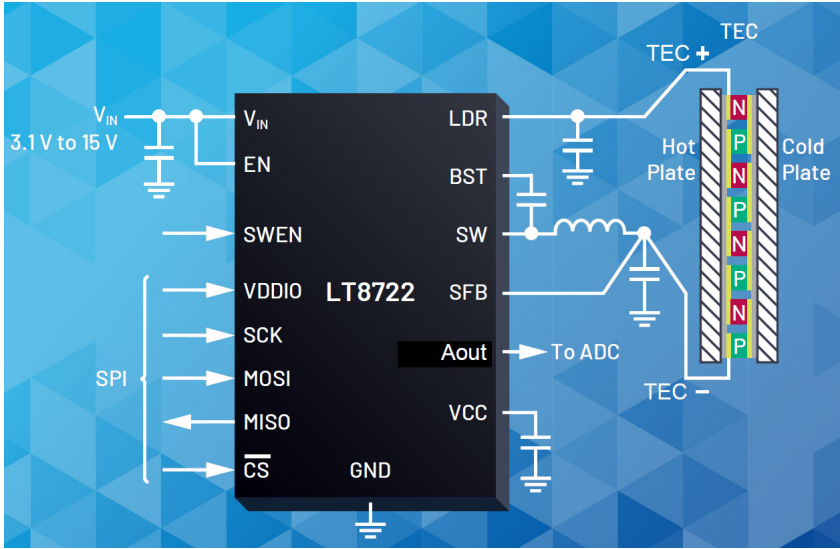

Figure 3: TEC Load Connections
- Connect to TEC load as shown in Fig. 3. TEC+ and TEC- correspond to the DC3145A banana jacks with the same labels.